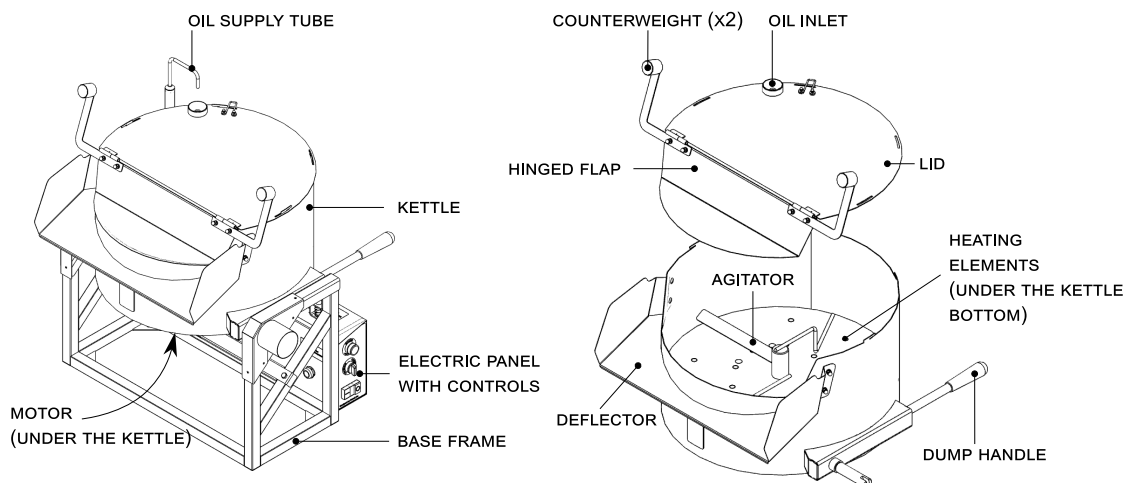

Figure 4: Structural parts
Main structural part of the machine represented on Fig. 4.
6. Pull down one of the countweights to open the flap (see Fig. 4).